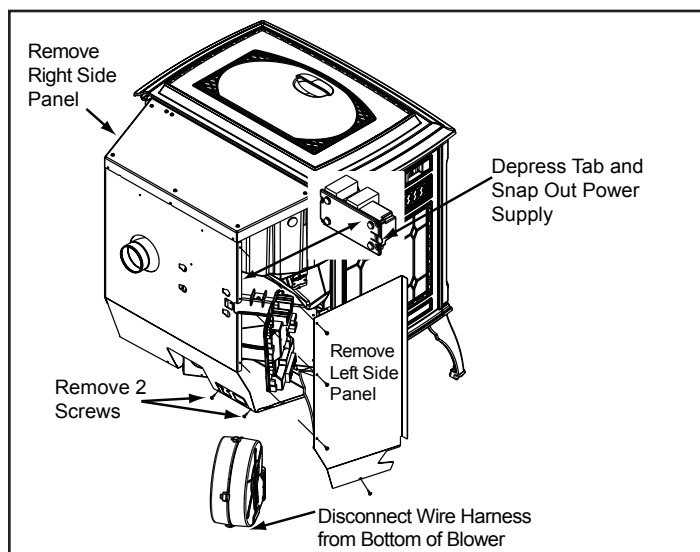

Figure 29.1
2. Remove the left and right side panels by removing the 4 screws using a Phillips head screw driver. **Figure 29.1.**
3. Depress the tab on the left side and snap out the power supply. You do not need to disconnect any wires. **Figure 29.1.**
4. Remove the 2 screws at the bottom of the back panel so there will be room to remove the blower. **Figure 29.1**
7. Disconnect the wire harness from the bottom of the blower by depressing the tabs on the sides of the connector and then pulling to remove. **Figure 29.1.**